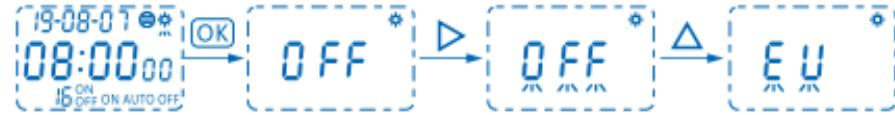

Figure 9 LCD display (set daylight saving time)
3.2.2.4.1 Press the "  $\nabla$  " key, the character "  $\odot$  " flashes, press the "OK" key to enter the daylight saving time setting state, press the "  $\triangleright$  " key, the summer time mode character flashes, and then press the "  $\Delta$  " key or "  $\nabla$  " key to operate, Select the required daylight saving time mode, including " OFF (Off)" , " EU (Europe)" , " USA (USA)" , and " F-EE (Free)" modes, as shown in Figure 9. After the selection is completed, press "OK" to save, then press "OK" to exit.